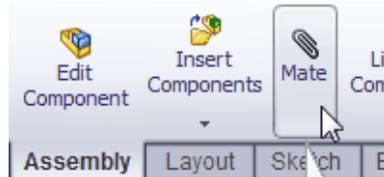
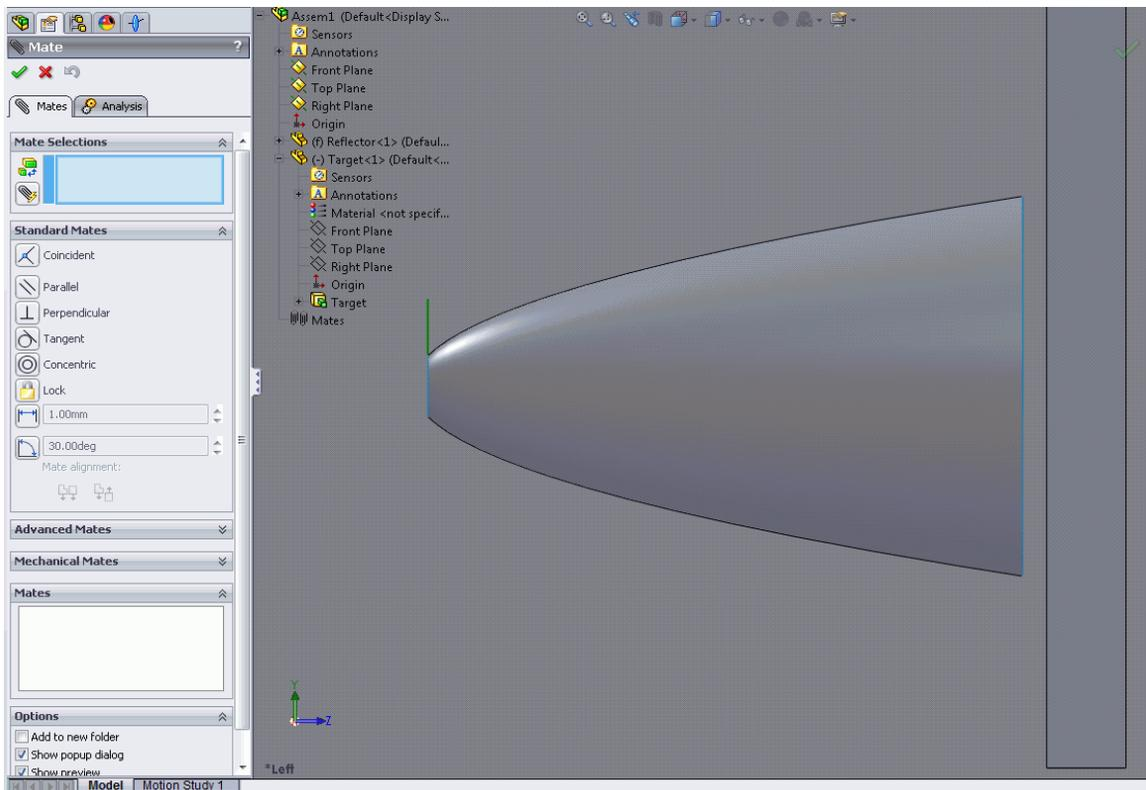

Figure 59 Clicking the Mate tool on the Assembly toolbar of the CommandManager
Figure 60 The Mates PropertyManager (left) and the assembly tree (left of the reflector) with (+) highlighted
- 1 Click the **Mate** tool on the **Assembly** toolbar of the CommandManager to open the Mate PropertyManager. See Figure 59 and Figure 60.